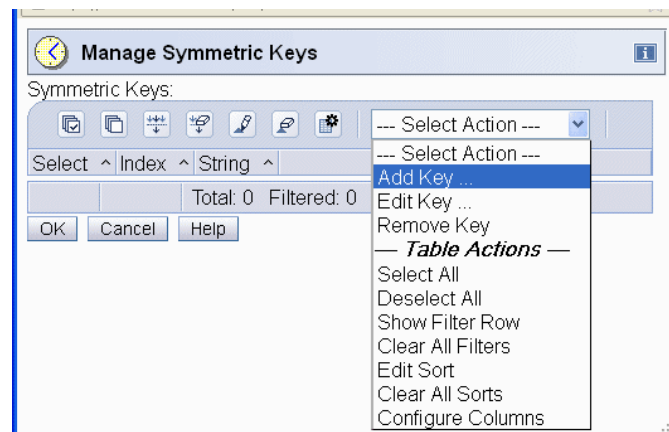

Figure 1-4 Add Symmetric Key
- Initially no key exists. Click **Add Key** from the Select Action pull-down menu (Figure 1-4).